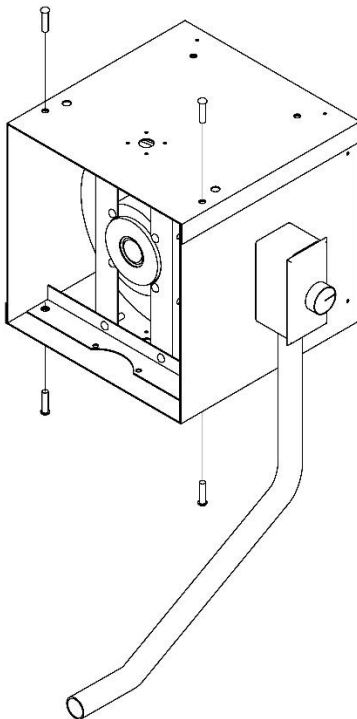

Figure 20
7.) Remove (4) screws holding fan motor bracket in place. See Figure 20.
- 14.) Attach fan motor assembly to fan motor housing with (4) screws. See Figures 20 and 21.